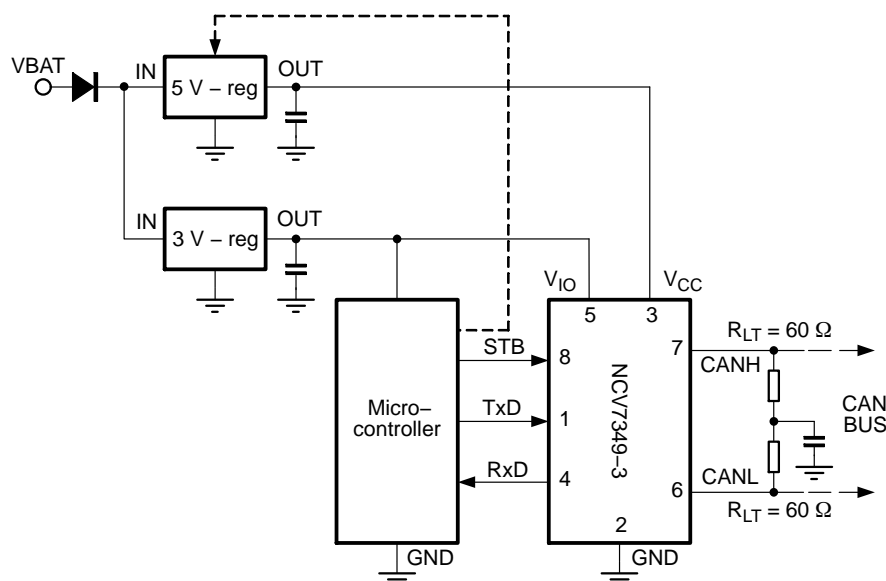

Figure 3. Application Diagram, NCV7349-3
**NCV7349-3:** Pin 5 is  $V_{IO}$  pin, which is supply pin for transceiver digital inputs/output (supplying pins TxD, RxD, STB). The  $V_{IO}$  pin should be connected to microcontroller supply pin. By using  $V_{IO}$  supply pin shared with microcontroller the I/O levels between microcontroller and transceiver are properly adjusted. This adjustment allows in applications with microcontroller supply down to 3 V to easy communicate with the transceiver. (See Figure 3)
The  $V_{IO}$  pin available only on NCV7349-3 version should be connected to microcontroller supply pin. By using  $V_{IO}$  supply pin shared with microcontroller the I/O levels between microcontroller and transceiver are properly adjusted. See Figure 3. Pin  $V_{IO}$  on NCV7349-3 does not provide the internal supply voltage for low-power differential receiver of the transceiver. Detection of wake-up request is not possible when there is no supply voltage on pin  $V_{CC}$ .